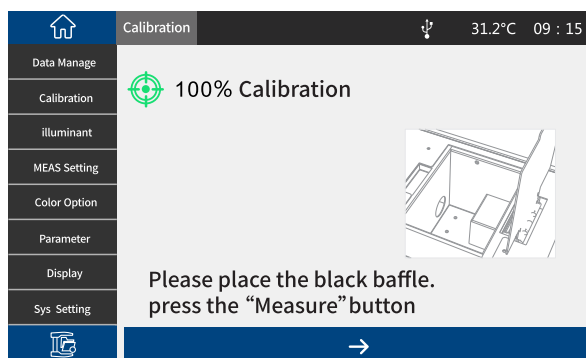

Figure 5 100% Calibration
3. After completing the 0% calibration, automatically enter the 100% interface in Figure 5, take out the blackboard according to the prompts (place the corresponding reference object or leave nothing), and then press the measurement button to perform white calibration.